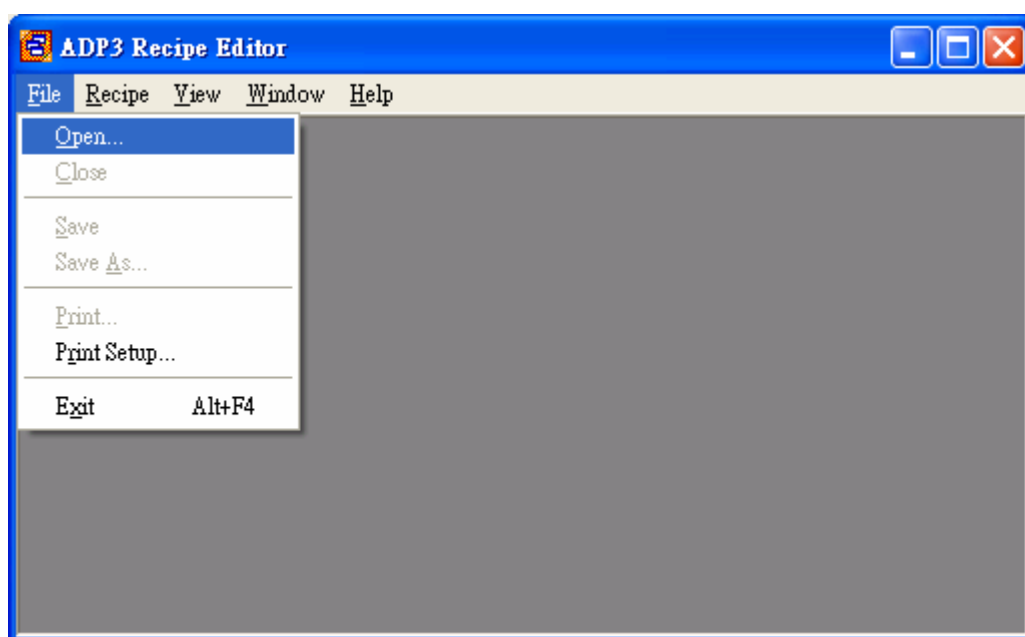

Figure 190. The ADP Recipe Editor Dialog Box
5. After the above steps have completed, the recipe file can be open to edit. Select [Tool]/ [View/Edit], the ADP recipe edit dialog box should be appeared as Figure 190. Select [File]/ [Open] and select the desired recipe file (ex. “painting.RCP”). Note: Recipe files “\*.RCP” must be uploaded and saved in HMI first, the recipe size and number of recipes can not be modified